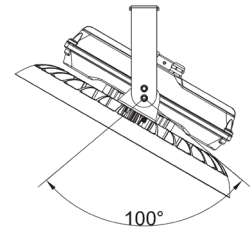

Fig. 7
6. After installation, connect the wire of the fixture to the mains according to local code. Ensure the connections are stable. By adjusting the bracket's screws, users can adjust 50° to the left or right vertically. (Fig. 7)